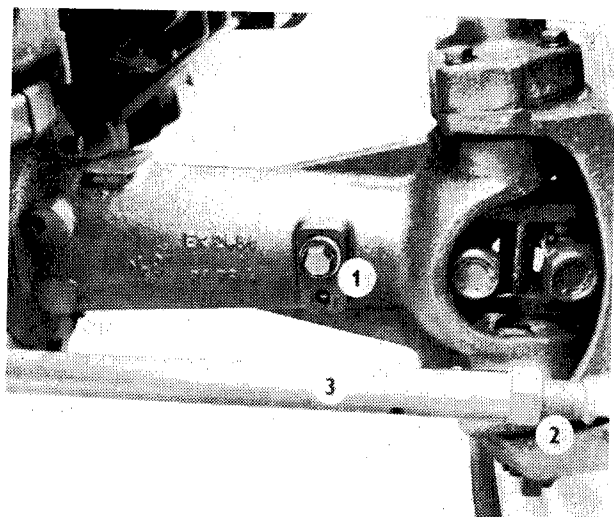

Fig. 14
- 18. Front drive axle oil filling hole (Fig. 14/1).